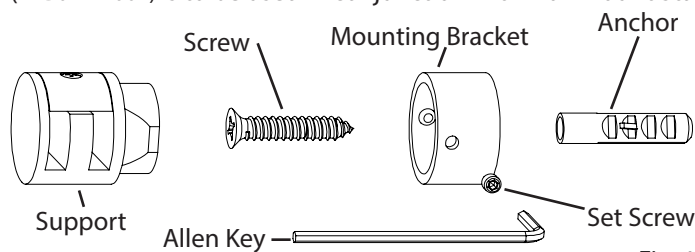

Fig. 1
1. Install the **Mounting Bracket** to the wall with **Anchor** (if applicable) and **Screw**, align set screw holes with the direction of **Power Bar**, then attach the **Support** onto the Mounting Bracket and tighten the two **Set Screws** with the **Allen Key** (Fig. 1).